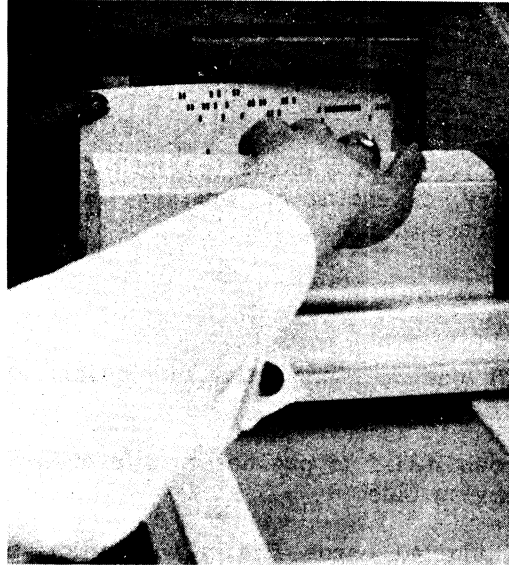

Figure 13. Inserting First Card in Feed Throat
5. Hold the card deck with the right hand; and, with the left hand, load the first card in the deck into the feed area so that its leading edge enters the feed throat (Figure 13). The card must lie flat against the riffle air housing and raise the arm of the hopper empty switch. This procedure ensures positive feeding of the first card and prevents a possible misfeed when card reading starts.